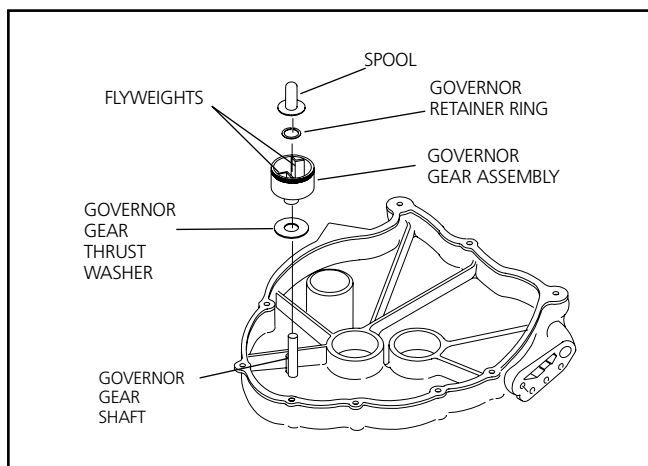

Figure 9-10. Governor Assembly
1. Apply engine oil to the governor gear shaft (Figure 9-10).